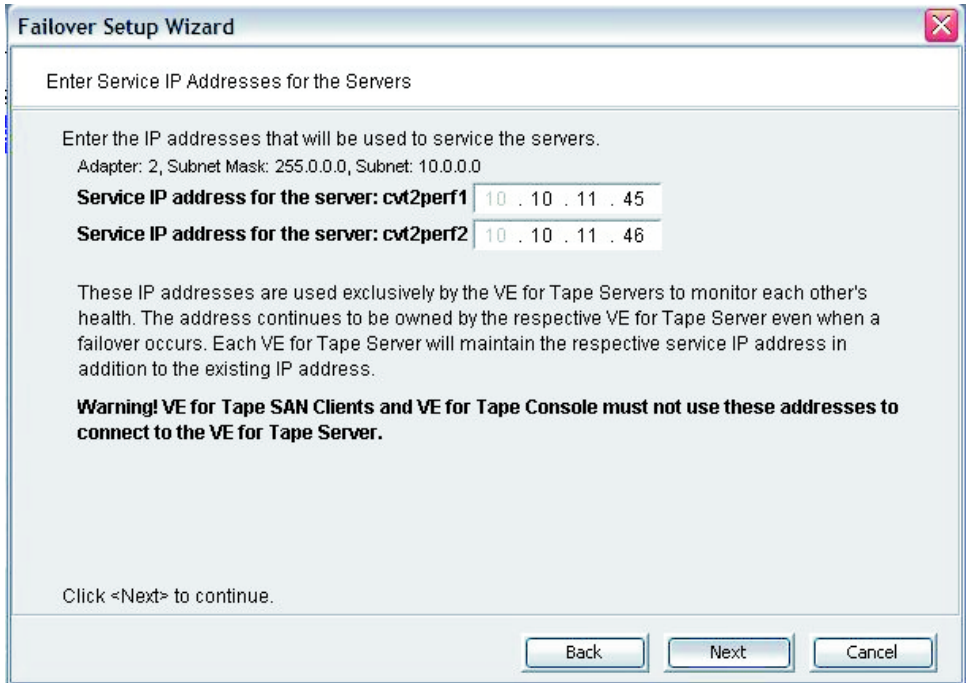

Figure 27. Entering or confirming service IP addresses for adapter 2
13. \_\_\_ In the Enter Service IP addresses for the Servers (Adapter 2) window (Figure 27 on page 38):